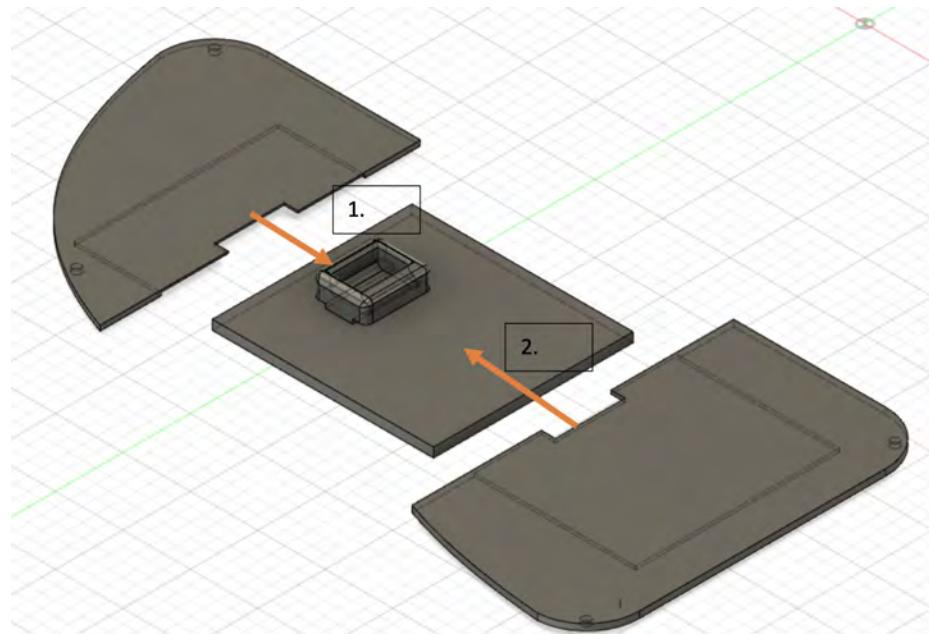

Fig. 39 (Door assembly)
5. Assemble doors- Print of files named (DoorTopLeft, DoorCenterLeft, DoorBottomLeft, DoorTopRight, DoorCenterRight, DoorBottomRight) using either PLA or ABS filament. Each part is labeled either Left or Right. Start by sliding the Door Top piece over the Door Center piece and glue with super glue. Repeat this step for the Door Bottom piece. Repeat this step for the opposite side. When completed there will be a Left door and a right Door, (Fig. 39) shows the appropriate assembly steps. Glue in the 6mm magnets into the holes seen on the back side of each door, 8 magnets will be required. Make sure that magnet polarity lines up appropriately.